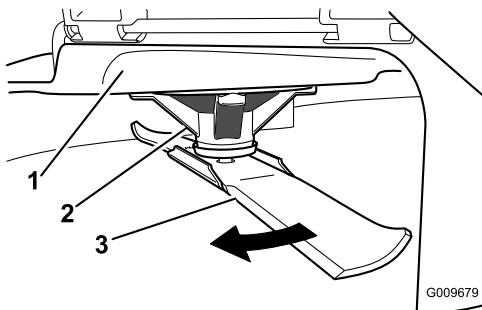

Figure 41
2. While wearing thickly padded gloves, or other adequate hand protection, slowly rotate the blade to be measure into a position that allows effective measurement of the distance between the cutting edge and the level surface the machine is on (Figure 41).